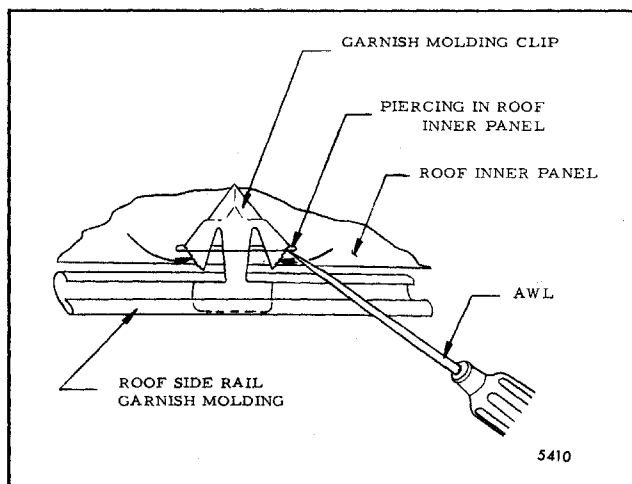

Fig. 8-21-Roof Side Rail Garnish Molding Attachment - E Styles Typical
6. Using an awl or screwdriver, press downward alternately on front and rear tab of clip until clip disengages from roof inner panel (Fig. 8-21).